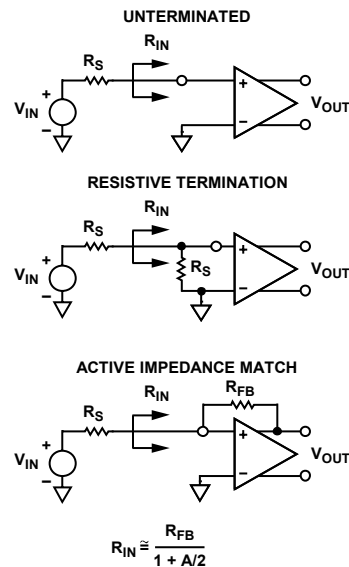
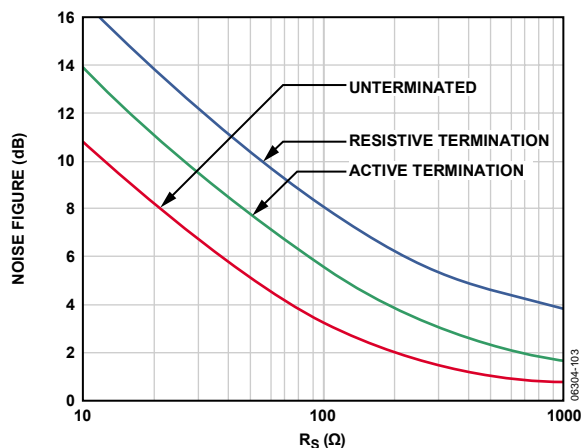
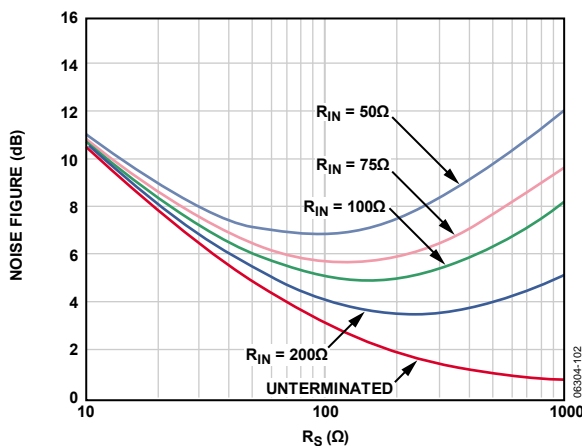

Figure 43. Input Configurations
Figure 44. Noise Figure vs. R_S for Resistive Termination, Active Termination Matched, and Unterminated Inputs, $V_{Gain} = 1$ V, 15.6 dB LNA Gain
Figure 45. Noise Figure vs. R_S for Various Fixed Values of R_{IN} , Active Termination Matched Inputs, $V_{Gain} = 1$ V, 15.6 dB LNA Gain
The short-circuit noise voltage (input-referred noise) is an important limit on system performance. The short-circuit noise voltage for the LNA is 1.2 nV/√Hz or 1.4 nV/√Hz (at 15.6 dB LNA gain), including the VGA noise. These measurements, which were taken without a feedback resistor, provide the basis for calculating the input noise and noise figure (NF) performance of the configurations shown in Figure 43. Figure 44 and Figure 45 are simulations of noise figure vs. R_S results using these configurations and an input-referred noise voltage of 4 nV/√Hz for the VGA. Underterminated (R_{FB} = ∞) operation exhibits the lowest equivalent input noise and noise figure. Figure 45 shows the noise figure vs. source resistance rising at low R_S—where the LNA voltage noise is large compared with the source noise—and at high R_S due to the noise contribution from R_{FB}. The lowest NF is achieved when R_S matches R_{IN}.
The primary purpose of input impedance matching is to improve the transient response of the system. With resistive termination, the input noise increases due to the thermal noise of the matching resistor and the increased contribution of the LNA's input voltage noise generator. With active impedance matching, however, the contributions of both are smaller (by a factor of $1/(1 + \text{LNA Gain})$) than they would be for resistive termination. Figure 44 shows the relative noise figure performance. In this graph, the input impedance was swept with R_S to preserve the match at each point. The noise figures for a source impedance of 50 Ω are 7.1 dB, 4.1 dB, and 2.5 dB for the resistive termination, active termination, and unterminated configurations, respectively. The noise figures for 200 Ω are 4.6 dB, 2.0 dB, and 1.0 dB, respectively.
Figure 45 shows the noise figure as it relates to R_S for various values of R_{IN} , which is helpful for design purposes.